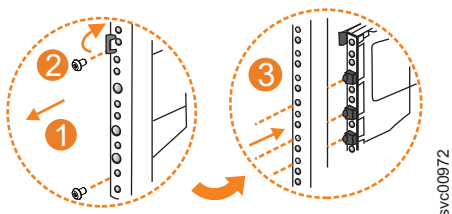

Figure 110. Remove the rail assembly from the front frame bracket
1. Remove the two screws that attach the outer rail section to the front bracket assembly, as shown in Figure 110.
2. Remove the rail section by pulling it away from the front bracket, as shown in Figure 110.